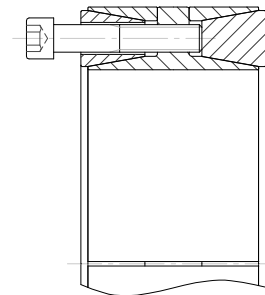

Fig. 3
4. Transfer locking screws used for dismantling of clamp collar item [2] into all push-off threads in center collar item [1] (see fig. 3). Release clamp collar item [3] by repeating procedure outlined in step 3.